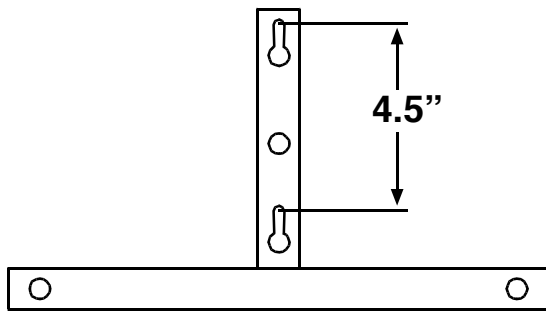
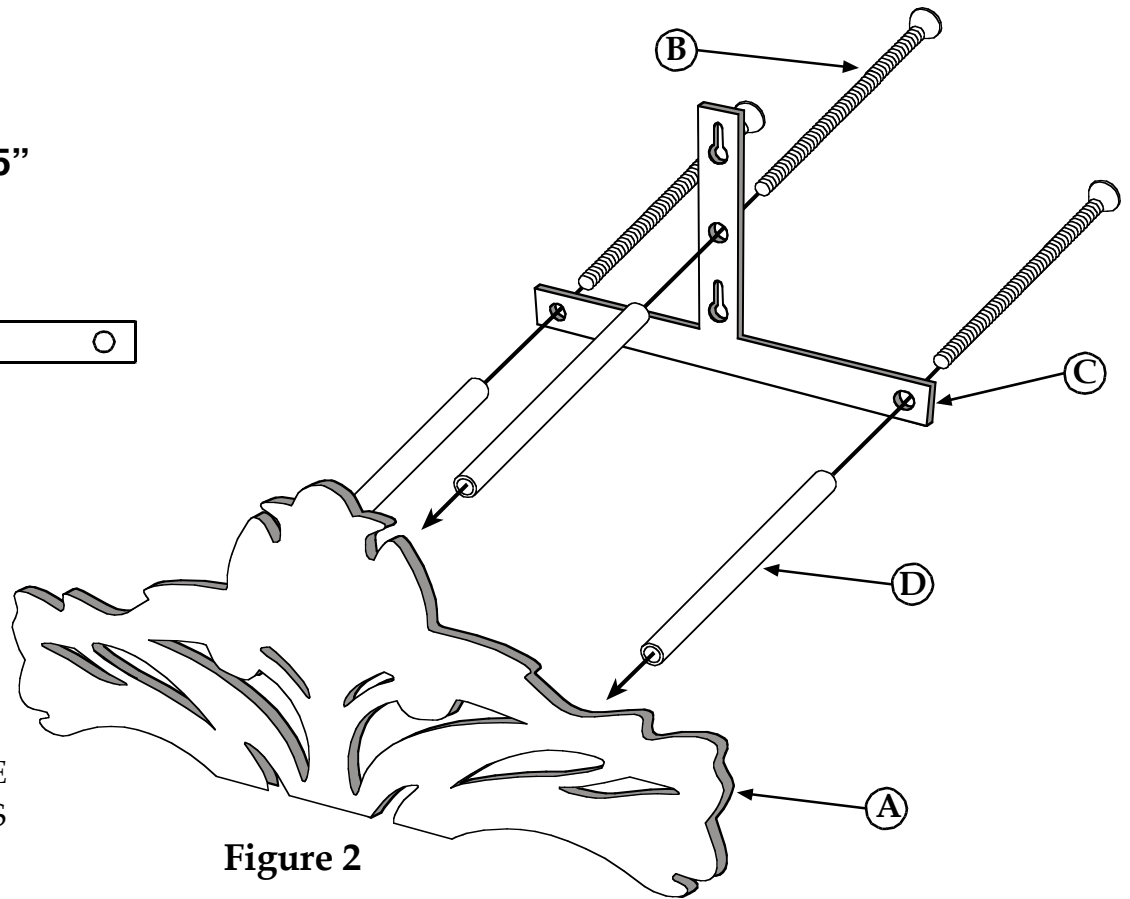

Figure 1
Figure 2
1. Hold the t-plate (C) flat against the mounting surface in the desired location. Mark the top of the keyholes and drill pilot holes 4.5" apart. Install your mounting hardware (*not provided*).** (See Figure 1)
2. Place decorative face (A) front side down.
3. Place machine screws (B) through indicated holes on the t-plate (C).
4. Place one support tube (D) over one machine screw (B) and place over decorative face (A). Align A & B so that the machine screw goes through the support tube and threads into the corresponding hole on the back side of A. (See Figure 2)
5. Lightly screw together (*do not tighten yet*). Repeat steps 4-5 with the remaining support tubes (D).